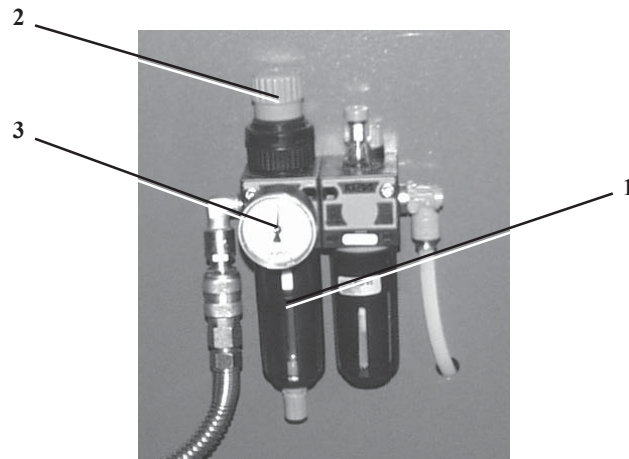

Fig. 5.2
Besides the foot pedals the machine is equipped with a pressure regulator (1, fig. 5.2) for the regulation of the inlet pressure. The operator can regulate the pressure through the adjusting knob (2) and control his value with the gauge. (3).
- Press the right pedal (2, fig. 5.2) a few seconds in order to activate the crimping heads and the vertical cylinder for the crimping cycle.